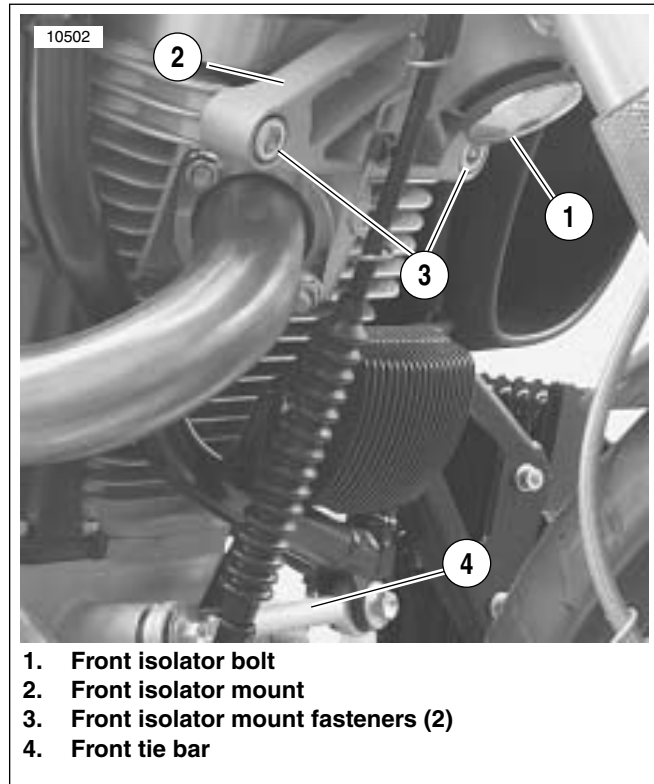

Figure 3-10. Front Isolator and Tie Bar Assemblies
2. See Figure 3-10. Insert front isolator bolt (1) through front isolator (2) and loosely thread into frame. Do not tighten at this point.
3. See Figure 3-10. Install isolator mounting fasteners (3) and tighten to 49-51 ft-lbs (66.4-69.1 Nm).
- b. Figure 3-10. Install front tie-bar to "V" bracket and tighten to 25-27 ft-lbs (33.9-36.6 Nm).